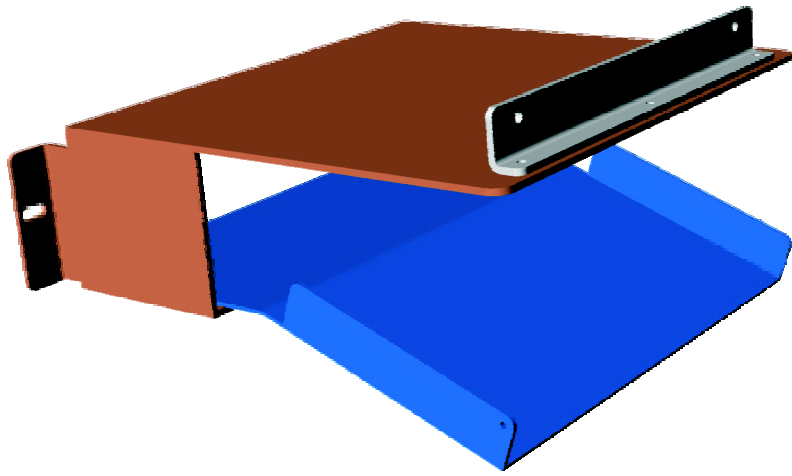

Fig 4
- 8) Push the lower plate through the chute and hook on to the lower front face of the chute. Pull back firmly into position. (See section Fig 4)